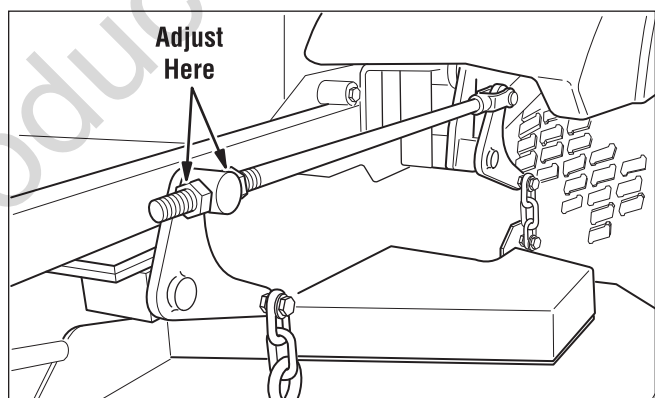

Figure 46. Adjust the Deck Lift Rod Timing
7. See Figure 46. To adjust the lift rod timing, adjust the 5/8" hex nuts on either side of the front lift pivot until the measurements are equal. Repeat for other side.